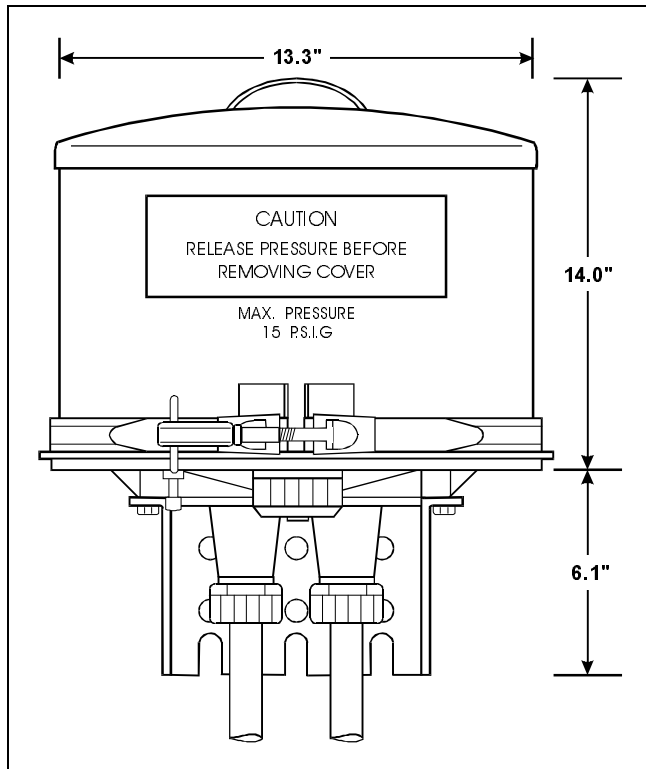

Figure 4. HRE-423 Enclosure Dimensions. The enclosure can be mounted on a pole, a pedestal, or on a wall in a manhole.
10.01 Pole or Pedestal Mounting. Use the procedure in Table 2 to mount the enclosure on a pole or pedestal. Mounting dimensions for pole or pedestal mounted enclosures are shown in Figures 4 and 5. Have the following equipment ready before you begin this procedure:
PROCEDURE FOR MOUNTING ON A POLE OR PEDESTAL WITH A DIAMETER OF LESS THAN 7 INCHES (see Figures 4 and 5)
PROCEDURE FOR MOUNTING ON A POLE OR PEDESTAL WITH A DIAMETER LARGER THAN 7 INCHES (see Figures 4 and 5)